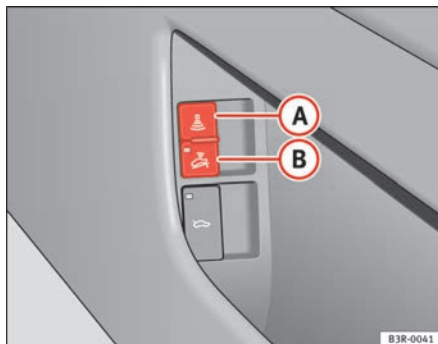

Fig. 77 Interior monitor switch
- Open the door and pull out the switch **(A)** (with the symbol ) on the storage compartment side, in the driver's door ⇒ fig. 77.
- Open the door and pull out the switch **(B)** (with the symbol ) on the storage compartment side, in the driver's door ⇒ fig. 77.